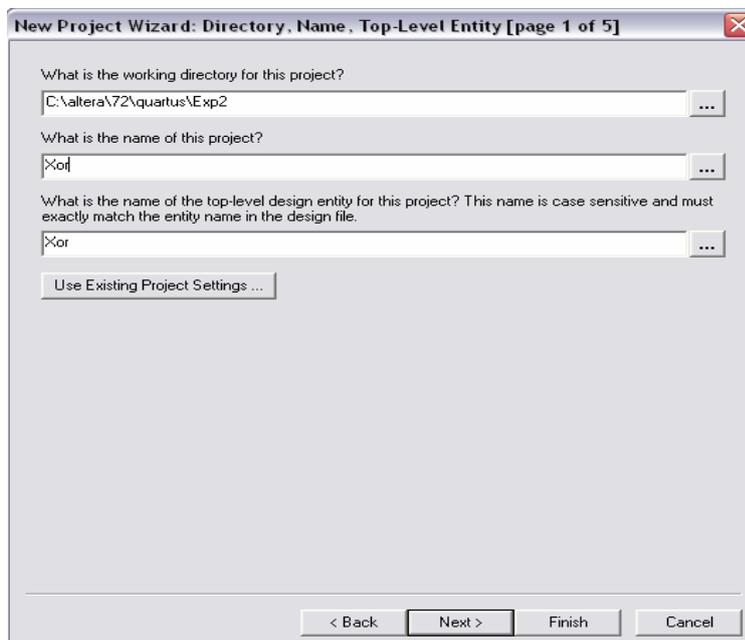
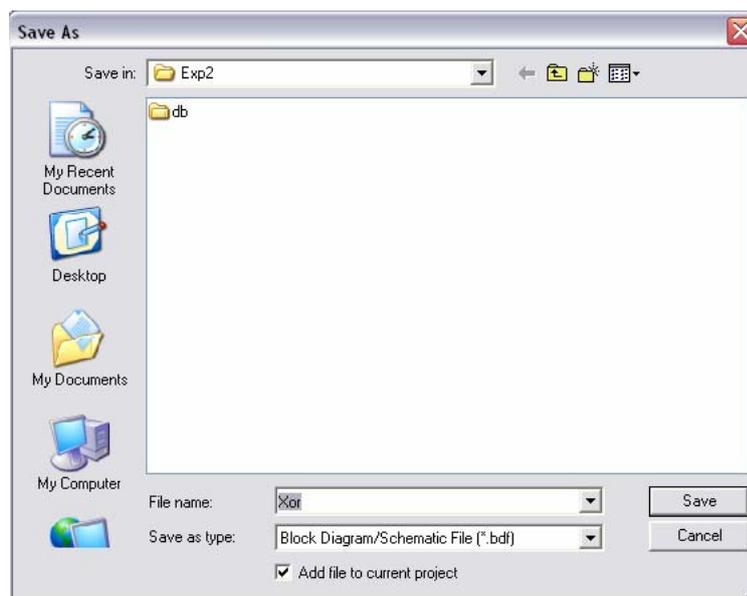
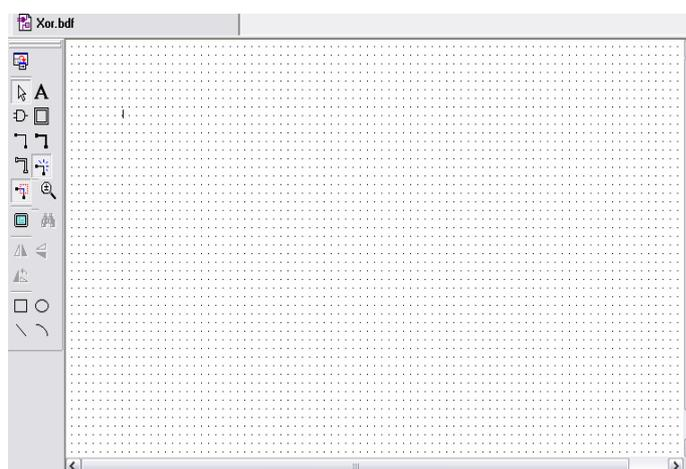

Figure 2b. Creation of a new project.
Figure 11. Name the file.
Figure 12. Graphic Editor window.
1. Create a new project; select **File > New Project Wizard** to reach the window in Figure 2b, which asks for the name and directory of the project.
2. Set the working directory to be *Exp2*, The project must have a name, which is usually the same as the top-level design entity (schematic circuit) that will be included in the project. Choose *Xor1* as the name for both the project and the top-level entity, as shown in Figure 2b.
The first step is to specify a name for the file that will be created. Select **File > Save As** to open the pop-up box depicted in Figure 11. In the box labeled **Save as type** choose **Block Diagram/Schematic File (\*.bdf)**. In the box labeled File name type Xor, to match the name given in Figure 2b, which was specified when the project was created. Put a checkmark in the box **Add file to current project**. Click **Save**, which puts the file into the directory Exp2 and leads to the Graphic Editor window displayed in Figure 12.